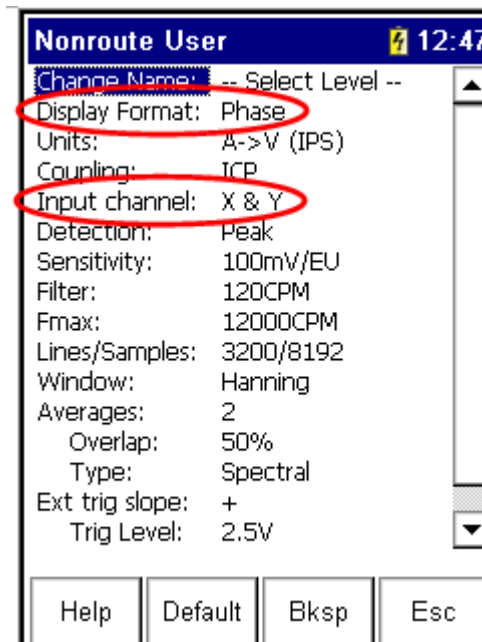

Figure 4. Non-Route setup
6. Figure 4 shows the proper Non-Route setup to collect Cross Channel Phase data using two sensors and no external trigger. The two main settings are **Display Format: Phase** and **Input Channel: X & Y**